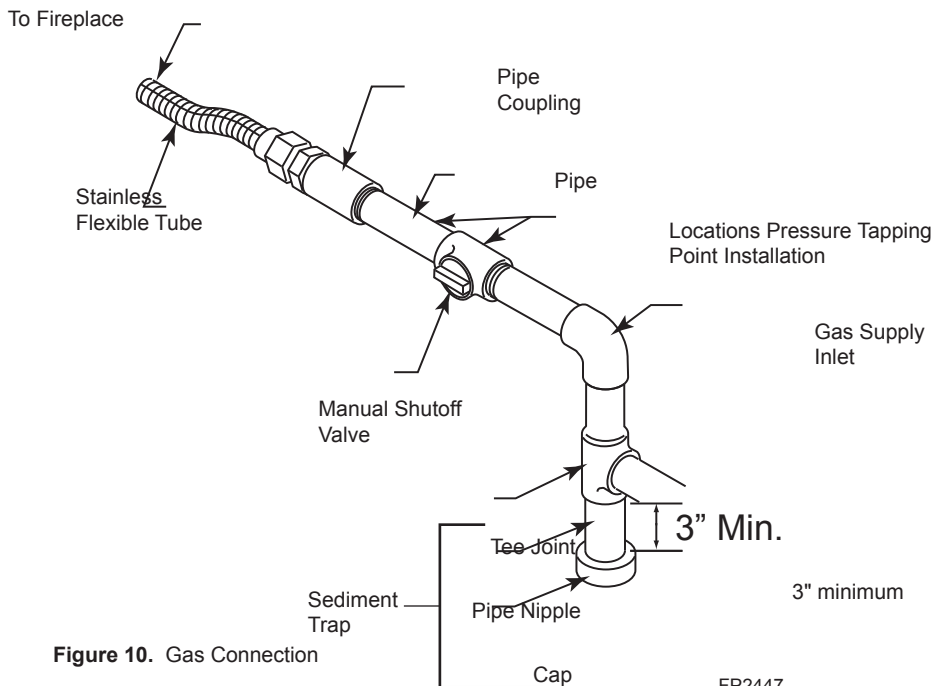

Figure 10. Gas Connection
4. Plumb gas line. Refer to the Connect the Gas (page 12, Figure 10) section found in this manual. (Gas connections should only be performed by an experienced, licensed/certified service person).
Use new black iron or steel pipe. Internally tinned copper or copper tubing can be used per National Fuel Code, section 2.6.3, providing gas meets hydrogen sulfide limits, and where permitted by local codes. Gas piping system must be sized to provide minimum inlet pressure (Listed on Data Plate) at the maximum flow rate (BTU/hr). Undue pressure loss will occur if the pipe is too small. A manual shutoff valve must be installed upstream of the appliance. Union tee and plugged 1/8" NPT pressure tapping point should be installed upstream of the appliance. Figure 10
A sediment trap should be installed upstream to prevent moisture and contaminants from passing through the pipe to appliance controls and burners. Failure to do so could prevent the appliance from operating reliably. Figure 10